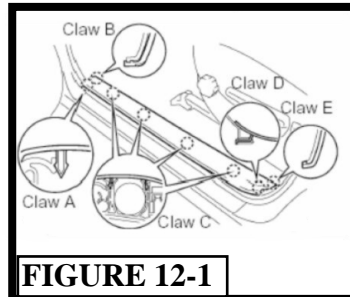

FIGURE 12-1
- (b). Remove the driver side step cover. (FIGURE 12-1)